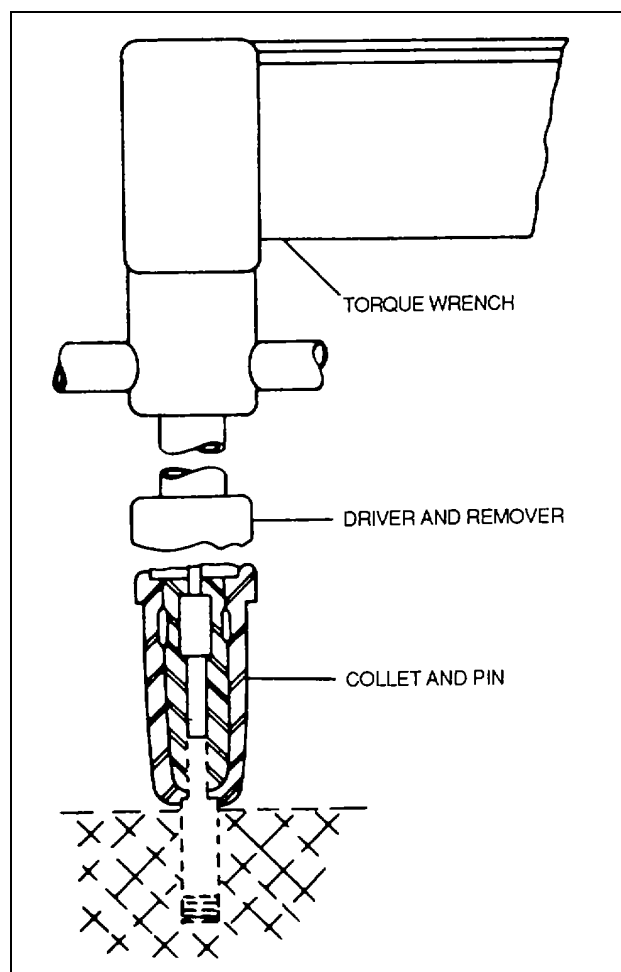

Figure 2-65. Stud Installation
- (3) Select proper size stud and install with driver and remover, and collet and pin, as shown in figure 2-65
- (4) Use torque wrench to determine torque at required height of stud.
(5) If correct torque is not obtained at required stud height, remove stud with driver and remover and install another stud. Refer to applicable aircraft maintenance manual for correct torque values.